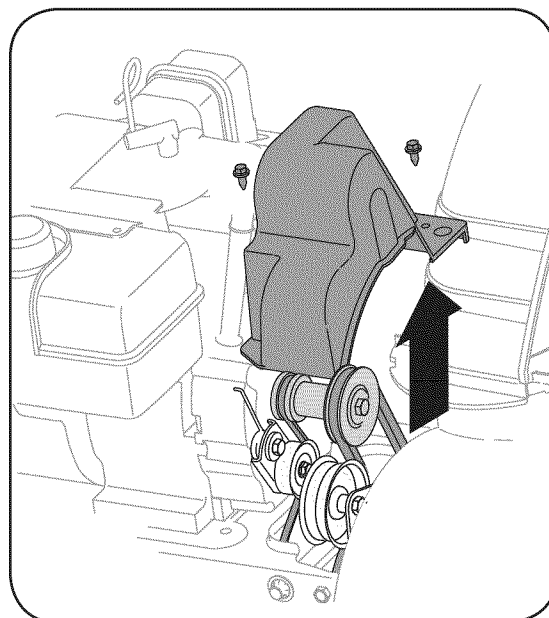

Figure 20
1. Remove belt cover by removing the two self-tapping screws that secure it to the snow thrower housing. See Figure 20.